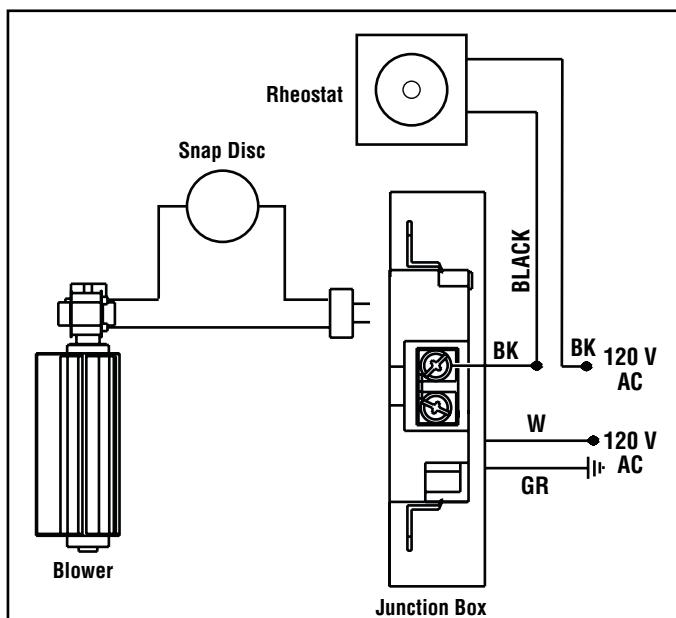

Figure 18 - Junction Box Wiring, 120 VAC, 60 Hz, 1 Phase
If you wish to adjust the blower speed, the variable speed control (VRUW) provided must be installed in line with the wiring (**Figure 18**). Again, use a qualified electrician for installation.
4. Connect the black power supply wire to the power outlet black lead wire together. Connect the white power supply wire and the power outlet white lead wire together (**Figure 18**).
5. Connect the ground supply wire to the green lead wire attached to the outlet's green ground screw (**Figure 18**). Restrain the inlet power lead per NEC or local codes.